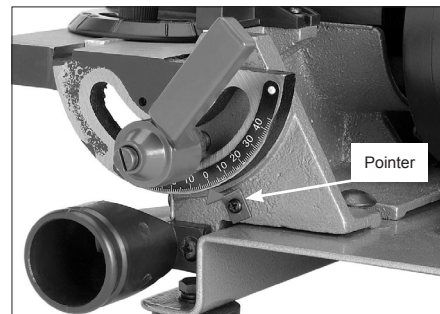

Fig.18
17. Using the M4-.7 x 10 Phillips head screw, align the red scale pointer with the "0" mark on the table angle scale (see Figure 18).